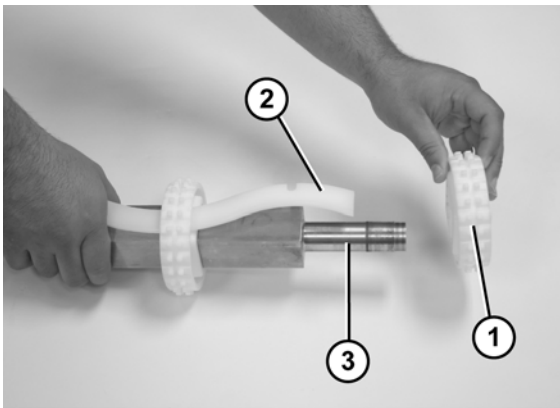

Figure 63
- Slide the sprockets (**Figure 63, item 1**) and the sprocket alignment bar (**Figure 63, item 2**) off the drive spindle (**Figure 63, item 3**).